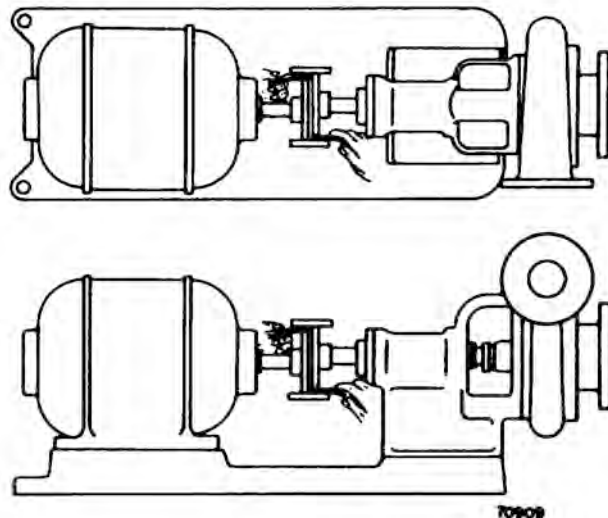

Figure 6: Checking parallel alignment
5. Check parallel misalignment: shaft axes parallel but not concentric, by laying a straight edge across both coupling rims at top, bottom and both sides. See Figure 6: Checking parallel alignment on page 13. This applies to both types of couplings.